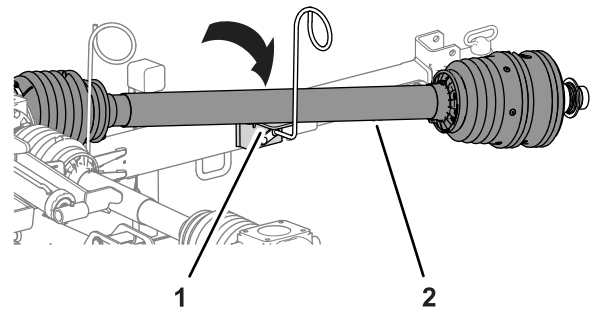

Figure 9
- Move the PTO driveshaft onto the driveshaft rest of the hose guide (Figure 9).